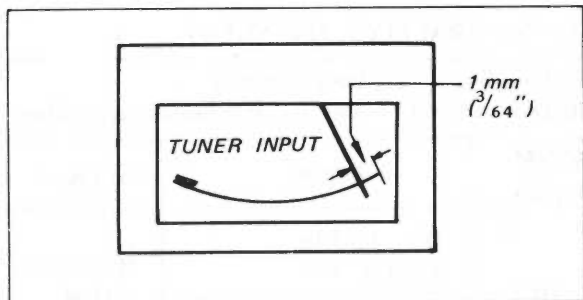

Fig. 3-9. TUNER INPUT meter calibration
3. Precisely tune the receiver to the signal and adjust RT202 (see Fig. 3-11.) to obtain the meter pointer within 1 mm (³/₆₄"') left of its maximum indication as shown in Fig. 3-9.
3. Precisely tune the receiver to the signal and adjust RT401 (see Fig. 3-11.) to obtain the meter pointer within 1 mm (³/₆₄"') left of its maximum indication as shown in Fig. 3-9.